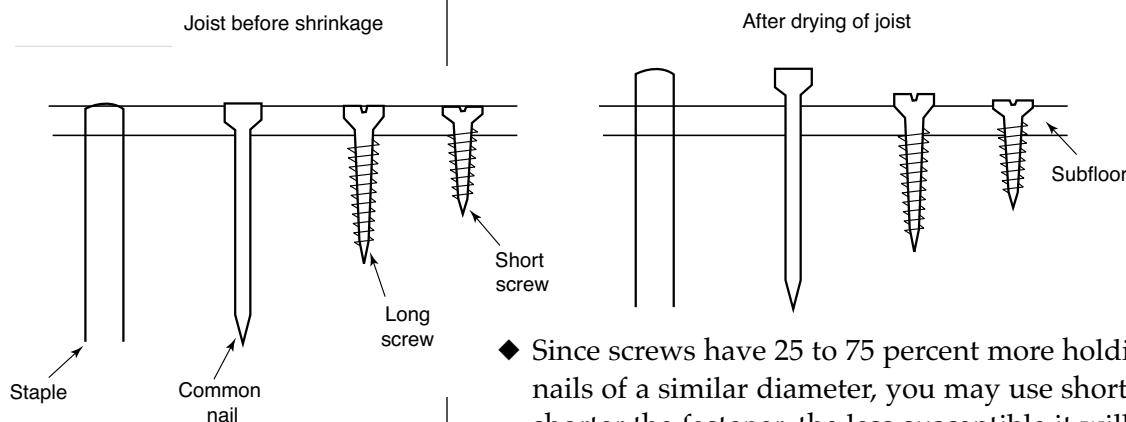

FIGURE 3
- ◆ The use of screws instead of nails is becoming more common. Some builders are using glue plus screws in an attempt to eliminate squeaks. Fasteners that are driven 50 mm (2 in.) into the joists have good holding strength until the joist shrinks. As the wood shrinks, the amount of fastener that remains embedded in the joists may be reduced by 3 mm (1/8 in.) or more. In effect, the fastener releases its hold on the subfloor. This "popping" of the fastener allows the subfloor to move and results in a squeak (see Figure 3).